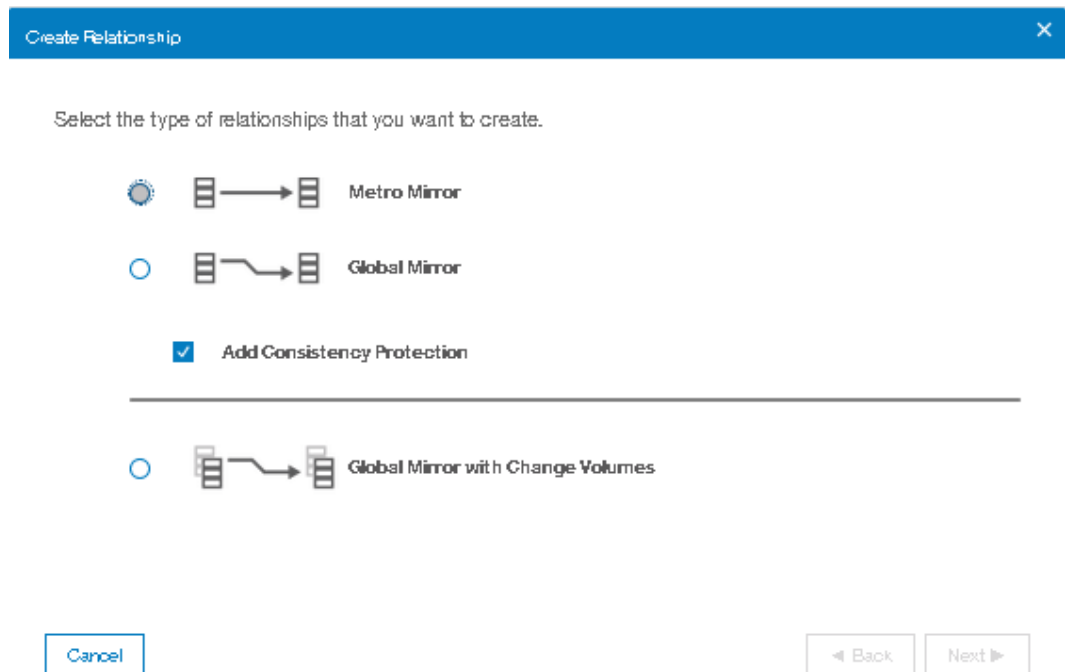

Figure 10-101 Select the type of relationship that you want to create
4. In the Create Relationship window, select one of the following types of relationships that you want to create (as shown in Figure 10-101 on page 564):